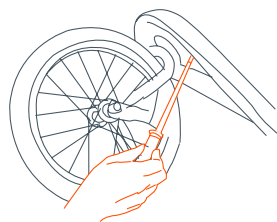

Fig. 23b
- Insert the 4 screws through the front frame assembly into the front fender's plastic tubes. Tighten the screws only until snug (Fig. 23b).